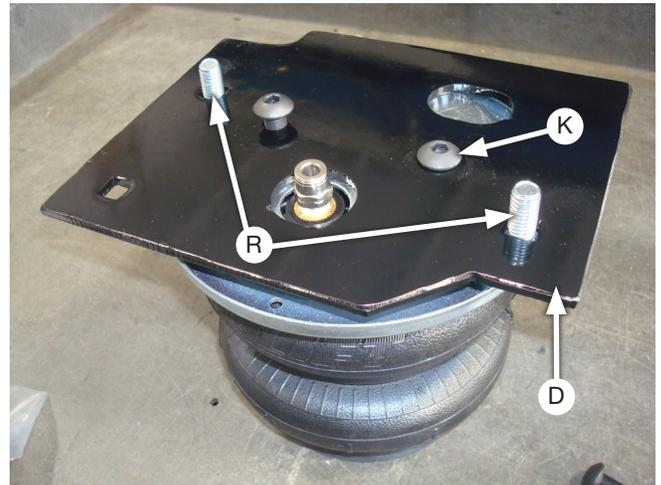

Fig. 20
2. Insert two carriage bolts (R) into each air spring upper bracket (D), then set both brackets over both air spring assemblies (Fig. 20) but flip the brackets opposite of each other when attaching, making them left- and right-hand units (Fig. 21). Attach the upper brackets with 3/8" button-head cap screws (K) and torque to no more than 20 lb.-ft. (27Nm).